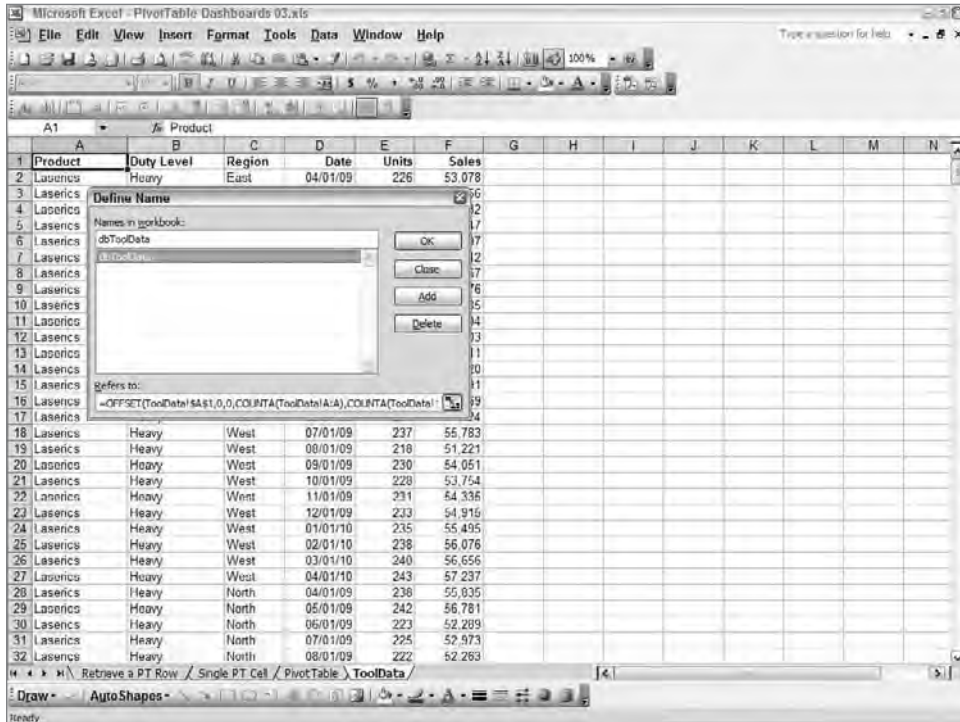

Figure 21.3: Create an auto-expanding range name for your database to ensure that new data is included in your PivotTable.
- Define a calculated range name. Figure 21.3 shows the new range name of dbToolsData. The “db” prefix is a naming convention for identifying a database. The formula that calculates the range for this name is in the Refers To: entry box. The OFFSET formula syntax is